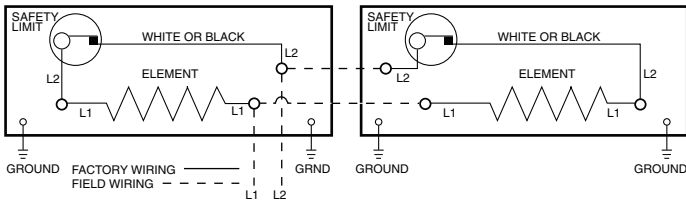

Figure 5: Wiring Diagrams
2. Wiring procedures and connections must be in accordance with the National Electrical Code (NEC) and local codes. Refer to Wiring Diagrams Figure 5. Make sure all electrical connections are tight to prevent possible overheating. Use Copper Supply Wire Only.
- d. Wire heater according to wiring diagrams in Figure 5. Attach the wireway cover using the screws.
- Follow the desired wiring diagram, as shown in Figure 5, to connect the power supply to the heater using approved wire nuts.